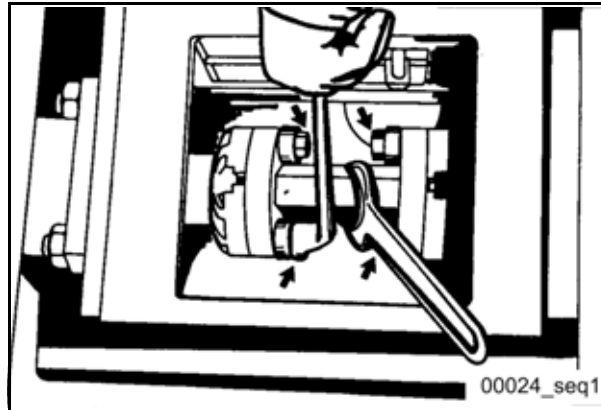

Fig. 327 Piston change
- Make sure the fastening screws are tight (**Fig. 327**).